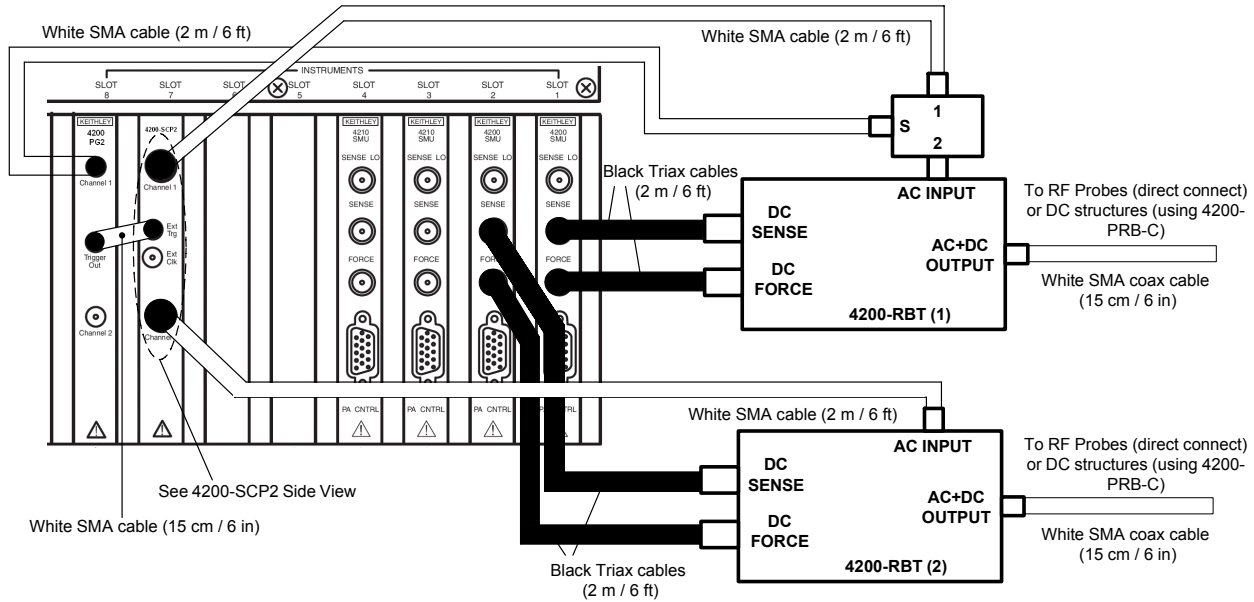

Figure 2. Connection Diagram for PIV
The 4200-PIV package adds 2 cards to the higher-numbered slots in the 4200-SCS mainframe, as shown in Figure 2. In addition, the interconnection for Pulse-IV is also shown in Figure 2 and 3.
2. Set up and connect the 4200-PIV. For 4200-PIV set up, refer to the 4200-SCS Applications Manual, along with Figure 2 and 3. Use the supplied torque wrench for the SMA connections on the 4200-RBTs, power divider and manipulators. Use care when installing the cable to the 4200-SCP2 trigger SMB connector.